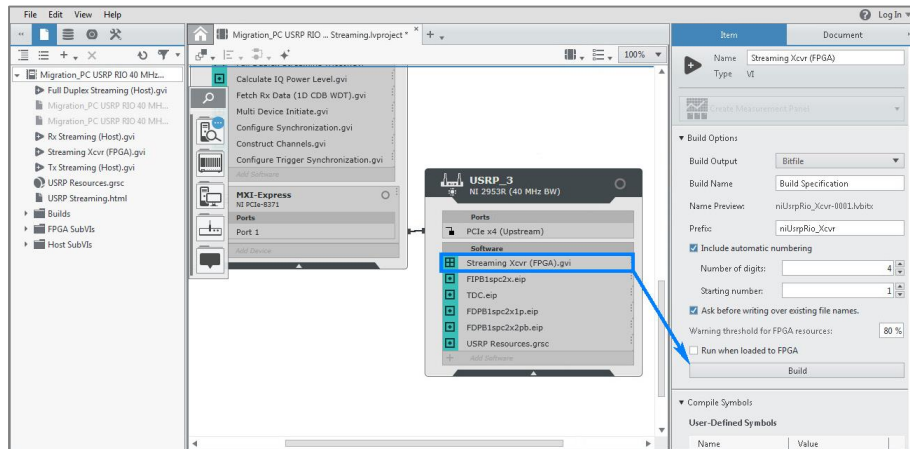

Figure 59: Compile the Project
- Click **Build** on the right pane as shown in Figure 59.